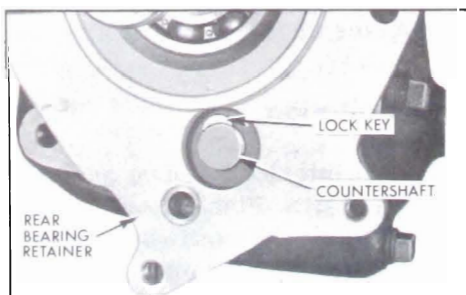

Figure 4-83—Removing Retainer to Case Bolt
6. Remove rear bearing retainer to transmission case bolt. See Figure 4-83.